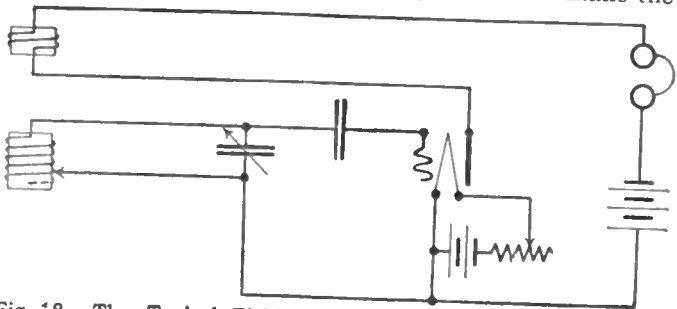

Fig. 18.—The Typical Tickler Coil Circuit for Regeneration or Undamped Wave Reception.
A. Tickler coil coupling. The tickler coil, Fig. 18, is most often used to amplify spark signals and to make the